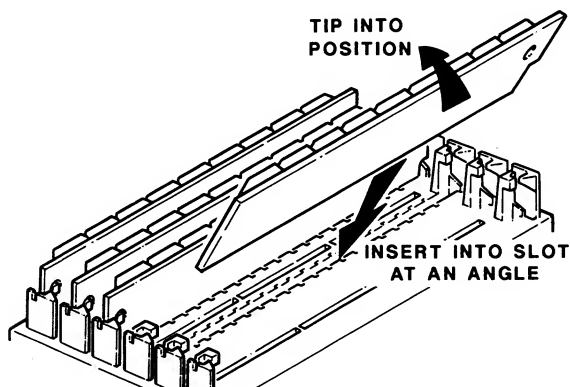

Figure 5-6. Installing SIMMs
3. Install the 1-megabyte SIMMs in the module slots in sequence beginning at MM105 for 3-megabyte expansion or at MM101 for 6-megabyte expansion. To install a SIMM, insert it into the slot at a slight angle. Push it into the slot and then tip it upright. Refer to Figure 5-6.